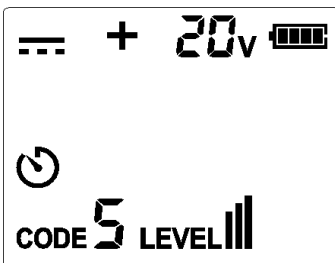

Figure 9.1a DC voltage measurement
4. When the voltage is 8 V ~ 480 V DC/AC (50/60 Hz). If the measured voltage is DC voltage and the positive pole is connected to V+ port, then the polarity of the port will be displayed (the polarity of V+ port is "+"). As shown in Figure 9.1a.